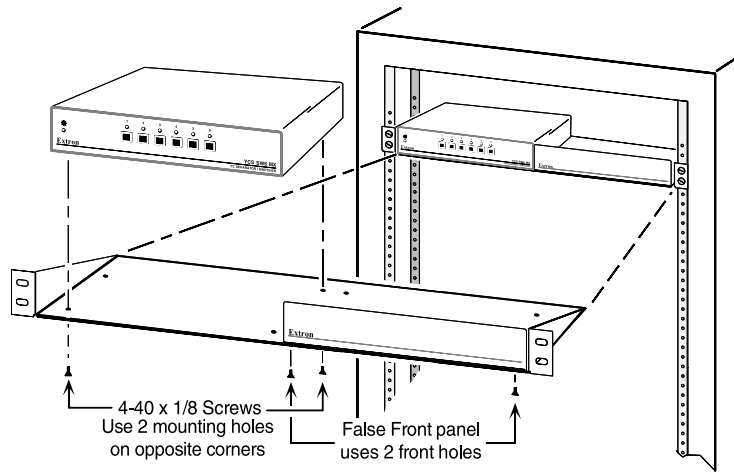

Figure 2 — Mounting the switcher
2. Mount the switcher on the rack shelf as shown in figure 2. Attach two 4-40 x 1/8 screws in opposite (diagonal) corners to secure the switcher to the shelf.